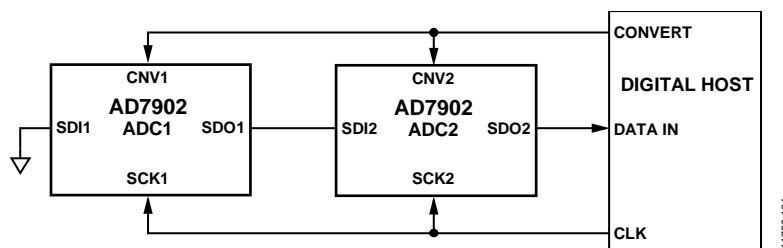
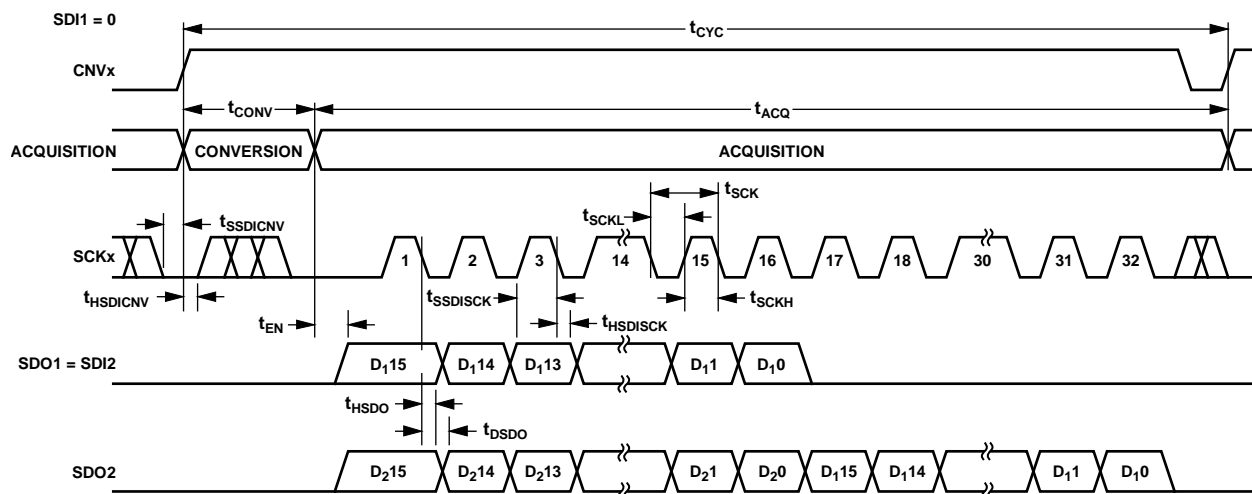
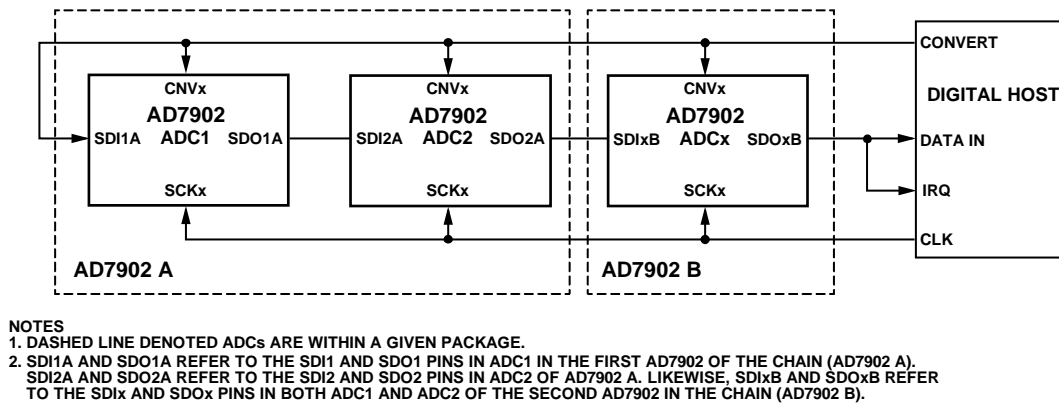
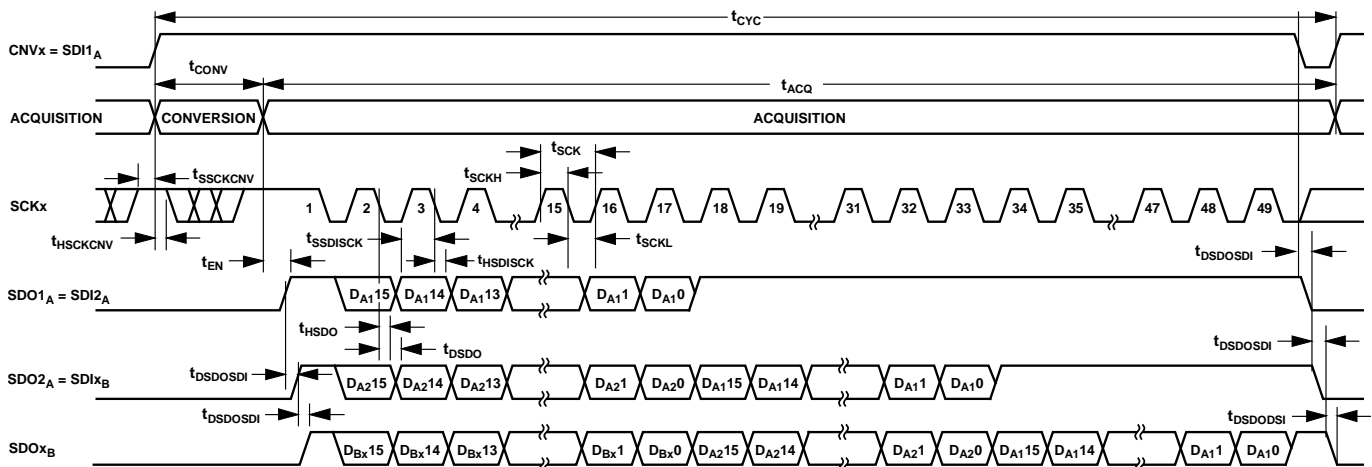

Figure 46. Chain Mode Without a Busy Indicator Connection Diagram
Figure 47. Chain Mode Without a Busy Indicator Serial Interface Timing
Figure 48. Chain Mode with a Busy Indicator Connection Diagram
Figure 49. Chain Mode with a Busy Indicator Serial Interface Timing
- In chain mode when SCKx is high during the CNVx rising edge (see Figure 49).
See Figure 46 for a connection diagram example using both ADCs in an AD7902. The corresponding timing is shown in Figure 47.
See Figure 48 for a connection diagram example using three AD7902 ADCs. The corresponding timing is shown in Figure 49.
conversions, the SDOx pin of the ADC closest to the digital host (see the ADC labeled ADCx in the AD7902 B box in Figure 48) is driven high. This transition on SDOx can be used as a busy indicator to trigger the data readback controlled by the digital host. The AD7902 then enters the acquisition phase and powers down. The data bits stored in the internal shift register are clocked out, MSB first, by subsequent SCKx falling edges. For each ADC, SDIx feeds the input of the internal shift register and is clocked by the SCKx falling edge. Each ADC in the chain outputs its data MSB first, and $16 \times N + 1$ clocks are required to read back the N ADCs. Although the rising edge can be used to capture the data, a digital host using the SCKx falling edge allows a faster reading rate and, consequently, more ADCs in the chain, provided that the digital host has an acceptable hold time.
Alternatively, for applications where simultaneous sampling is required but pins on the digital host are limited, the two user interfaces on the AD7902 can be connected in one of the daisy-chain configurations shown in Figure 46 and Figure 48. This daisy chaining allows the user to implement simultaneous sampling functionality while requiring only one digital host input pin. This scenario requires 31 or 32 SCK_x falling edges (depending on the status of the busy indicator) to acquire data from the ADC.